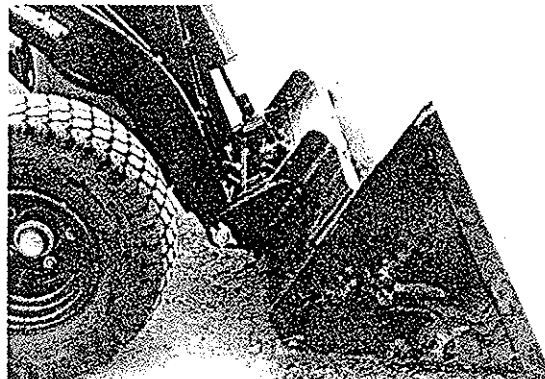

FIGURE 6
3. Drive up the attachment and tilt back the attachment frame until the attachment is lifted off the ground and rests against the attachment frame, as shown in **Figure 6**.